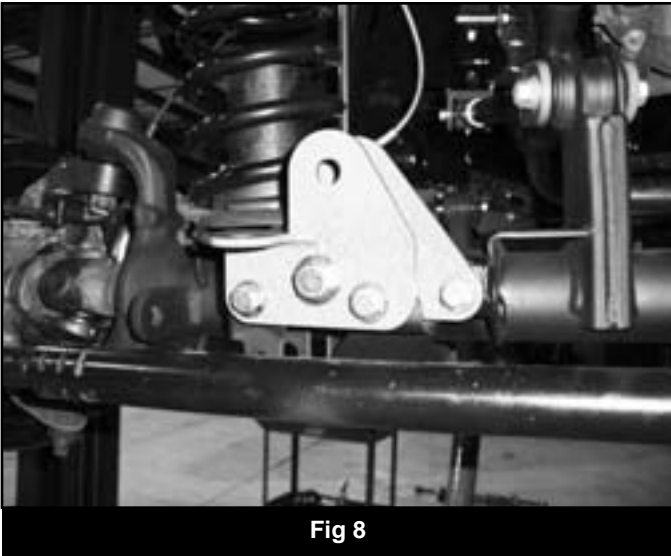

Fig 8
22. Install new front track bar bracket (01964) with the provided crush sleeve (69) to the OE mount with the provided 9/16" x 3" bolt, nut and washers (BP 562). Fasten the bracket with two 7/16" x 1" bolts, nuts and washers in the two front face holes and a 1/2" x 1" bolt and washer in the remaining hole (BP 562). The 1/2" bolt will use the provided square nut, a wrench is not needed to hold the nut (Fig 8). Use Loctite on the 1/2" bolt threads. After all the hardware is installed torque the 9/16" hardware to 100 ft-lbs, the 1/2" hardware to 60 ft-lbs and the 7/16" hardware to 50 ft-lbs.